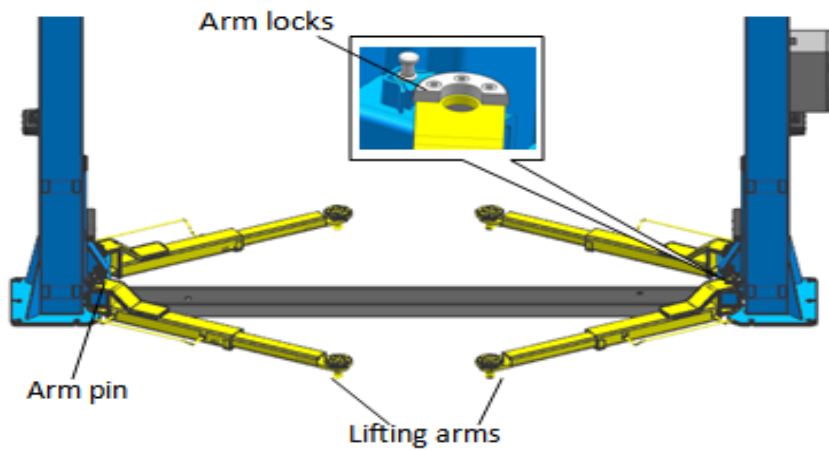

Fig. 11
Step 10: Install the lifting arms. (Fig.11)